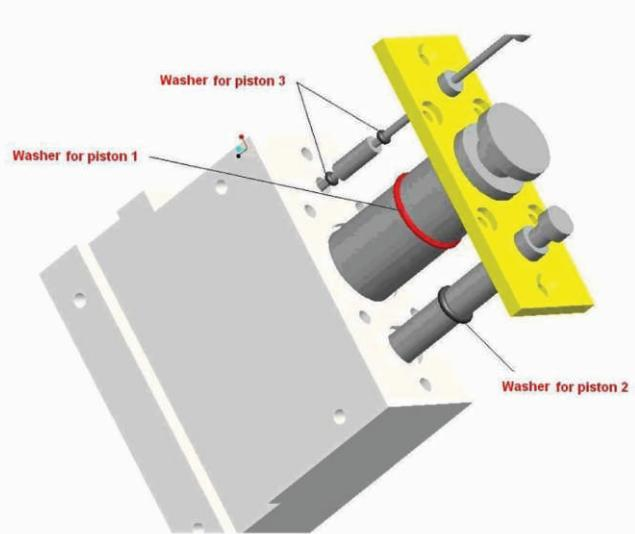

Fig.6-7 Piston washer locations
3. Take off the leaking or broken washers and replace them with a new washer for each piston (smear the inside and outside of the washers with airproof lubricating grease) and reinstall the syringes and the holding plate again, As shown in fig 6-7: